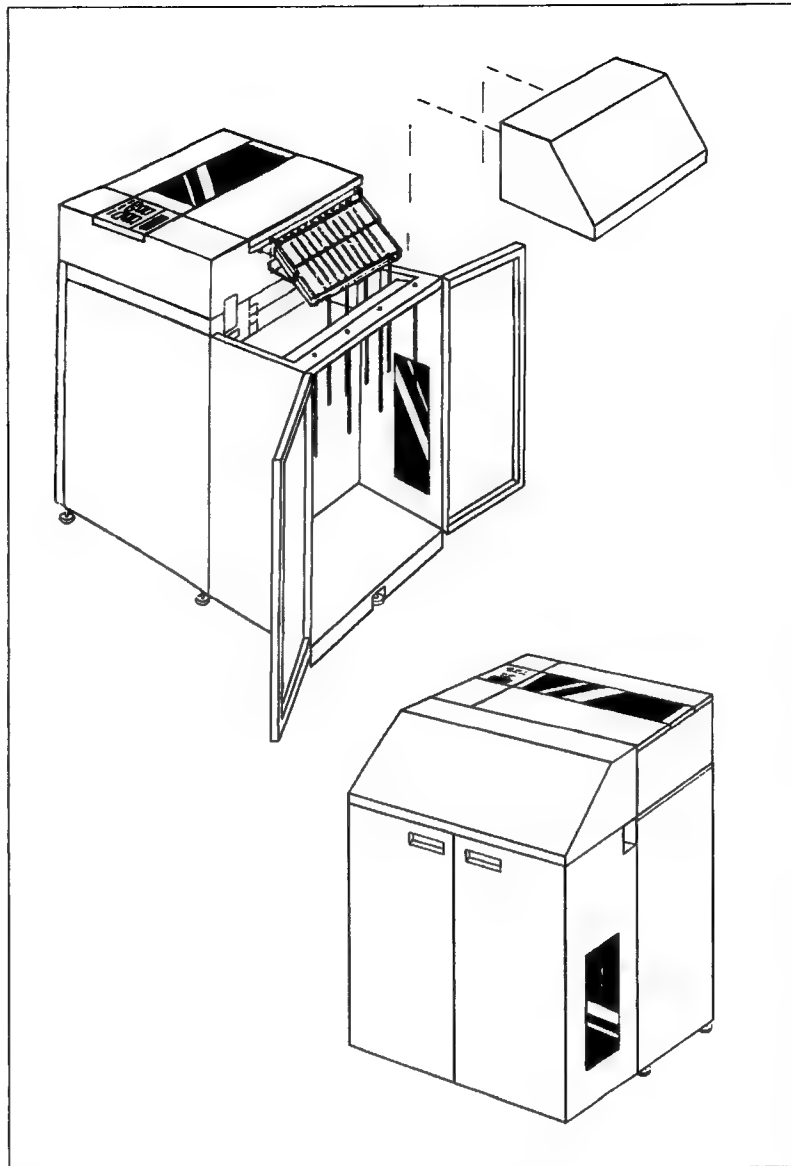

Figure 2-36. Installing the Wire Form and Shroud
- i. Install the Shroud Assembly. Slide the shroud directly over the wire form (Figure 2-36). Push firmly until it snaps into place. Make sure the shroud pins slide into the main weldment pin holes and the shroud fits tight against the back of the printer and flush with the top of the printer.